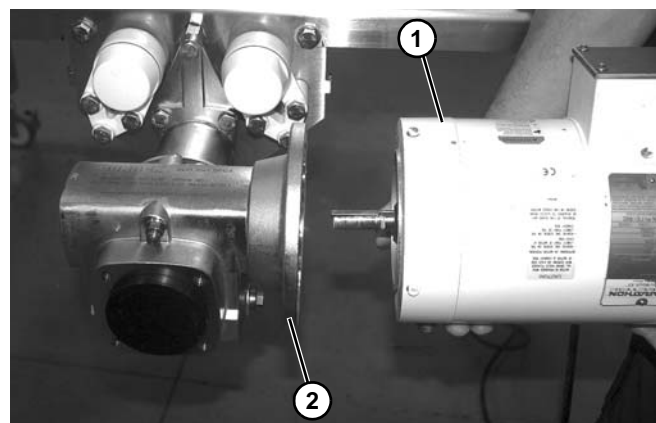

Figure 84
5. Remove motor (Figure 84, item 1) from the gear reducer (Figure 84, item 2).